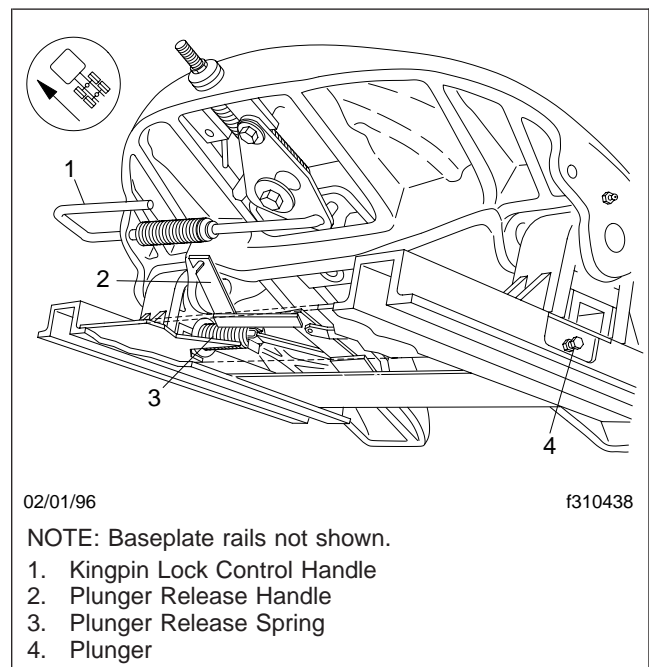
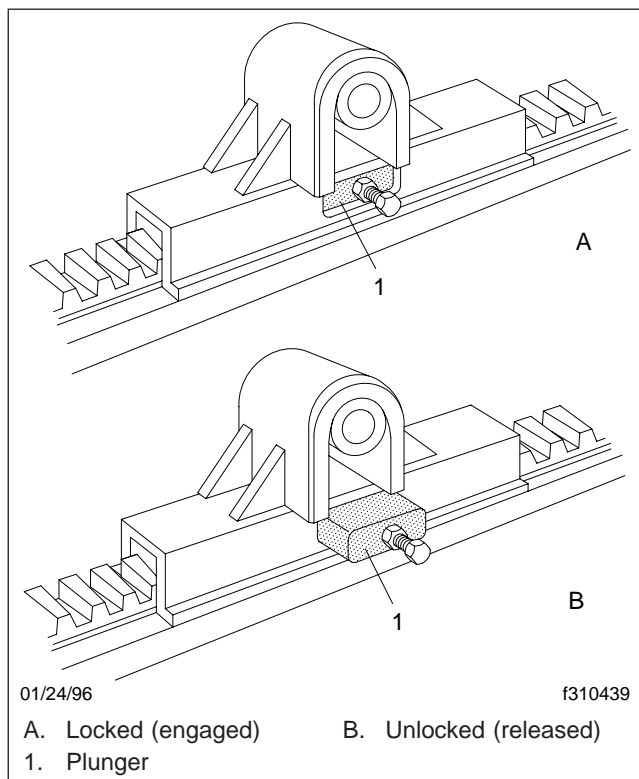

Fig. 10.3, Manual Release Slide
Fig. 10.7, Plunger Positions
The manual release slide assembly (**Fig. 10.3**) is equipped with a single release lever. Pulling on the release lever unlocks both plungers.
- 2.2 For manual release models, pull the release lever (**Fig. 10.3**) using a release hook, or other suitable tool. Make sure both slide plungers have released. See **Fig. 10.7**. If the plungers have not released (come out), lower the trailer landing gear to relieve pressure on the plungers.
- 8.1 For air-operated models, set the cab-operated control switch to LOCK. Visually check the slide plungers to make sure they are engaged in the fully locked position. See Fig. 10.7.
- 8.2 For manual release models, trip the release lever (Fig. 10.3) using a release hook or other suitable tool. Make sure that both plungers have locked (retracted into their pockets), and are fully engaged in the rack teeth. See Fig. 10.7. It may be necessary to move the tractor slightly while keeping the trailer brakes locked.